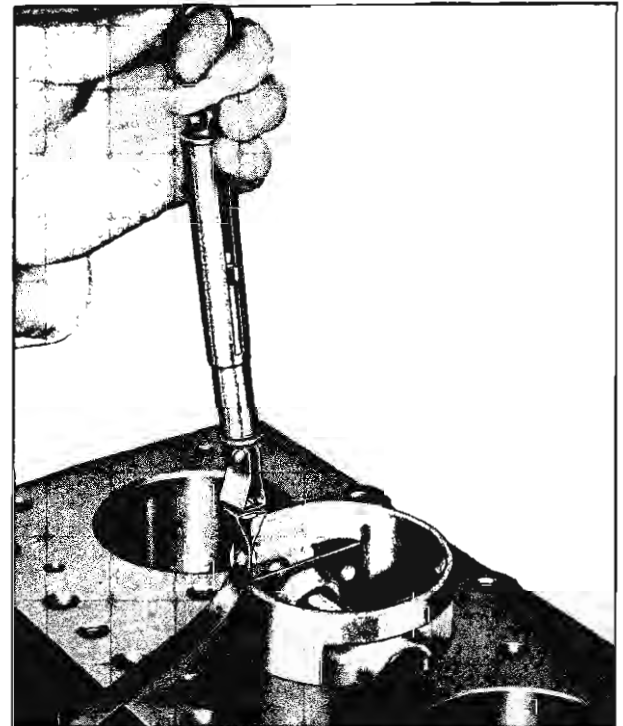

Fig. 33—Fitting Piston
- c. Pull the feeler gauge straight up and out, noting at the same time the scale reading which should be between 7 and 18 pounds (fig. 33).